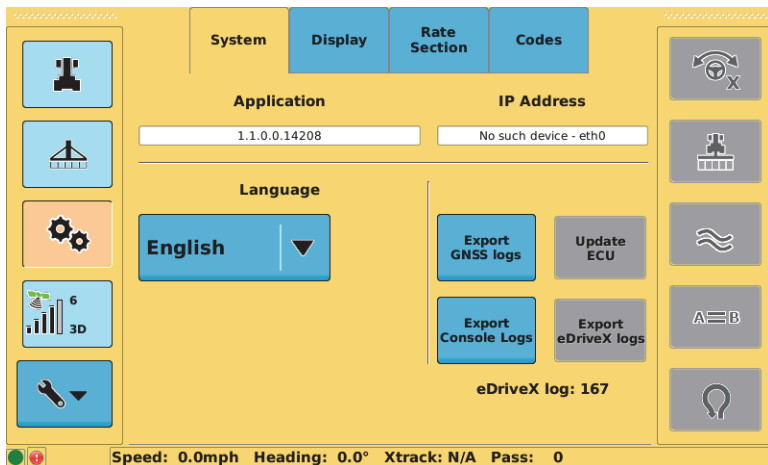

Figure 2-4: System screen
1. Press the **Tools** screen button, and, if the System screen is not displayed, press the **System** tab. The System screen appears (see Figure 2-4 above).